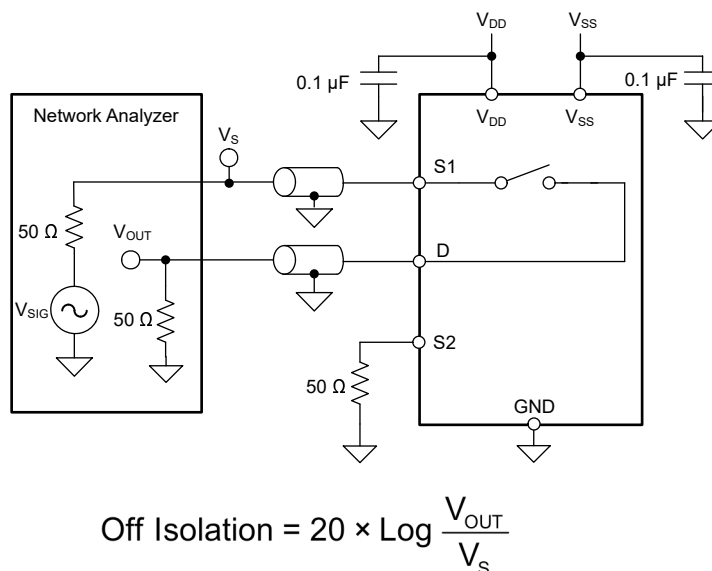

图 7-10. Off Isolation Measurement Setup
Off isolation is defined as the ratio of the signal at the drain pin (D) of the device when a signal is applied to the source pin (Sx) of an off-channel. 图 7-10 shows the setup used to measure, and the equation used to calculate off isolation.